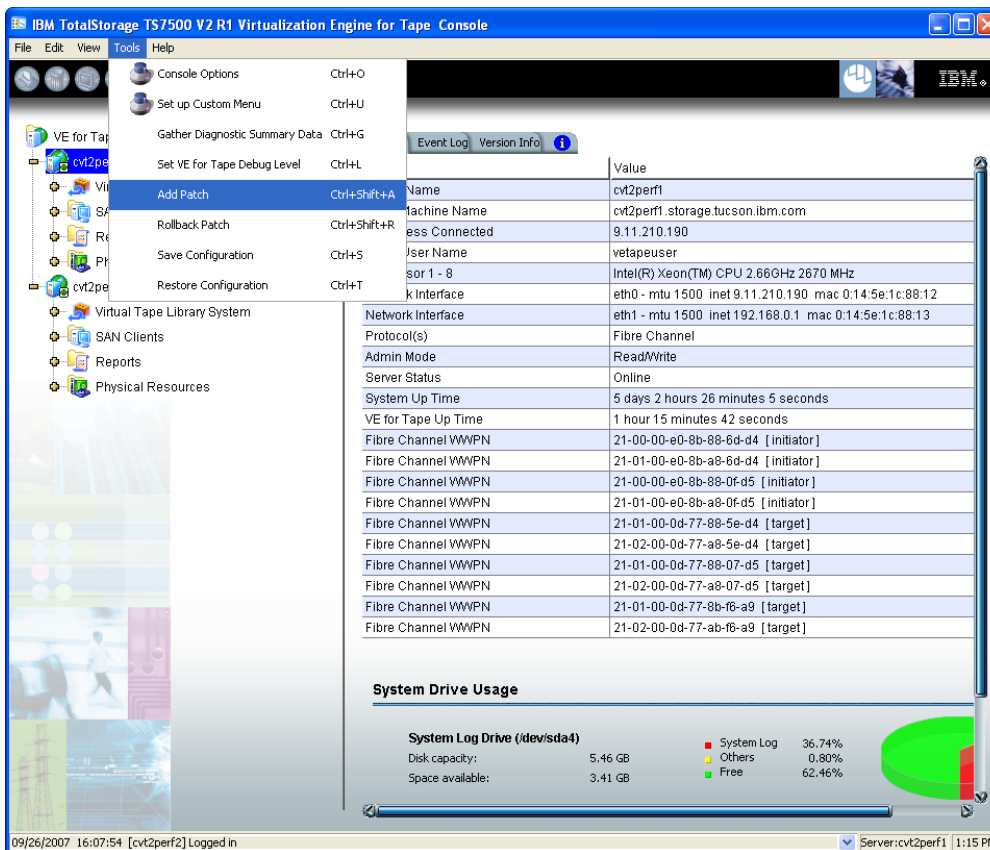
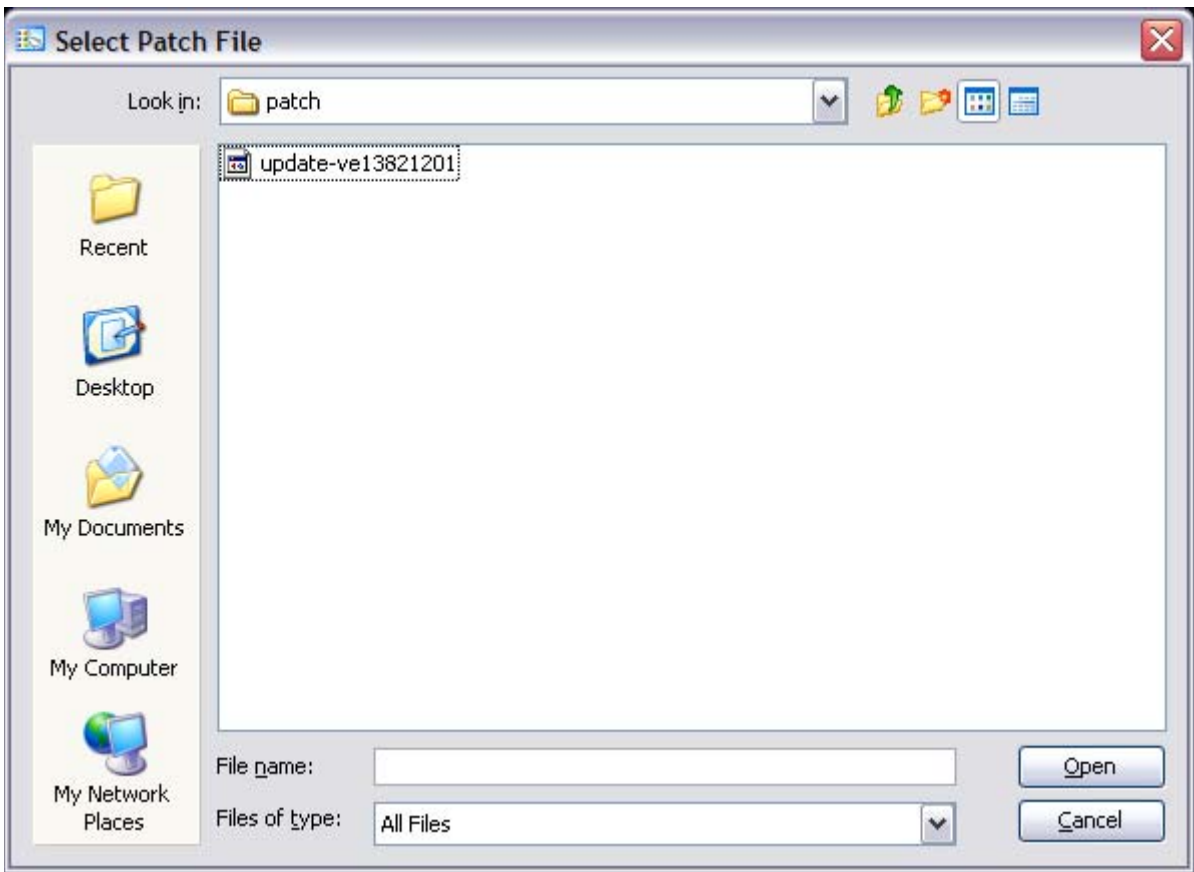

Figure-6
Figure-8
Use the following procedure to install the patch on each 3954-CV6 VE for Tape server (both the upper and lower server if in an HA environment). Refer to Figure-6 through Figure-8.
3. Highlight the VE for Tape server and click **Tools** → **Add Patch** (Figure-6)
5. When presented with the Select Patch File window (Figure-8), index to the VE Console workstation directory where you unzipped the *update-ve13821201* patch file and select the file.